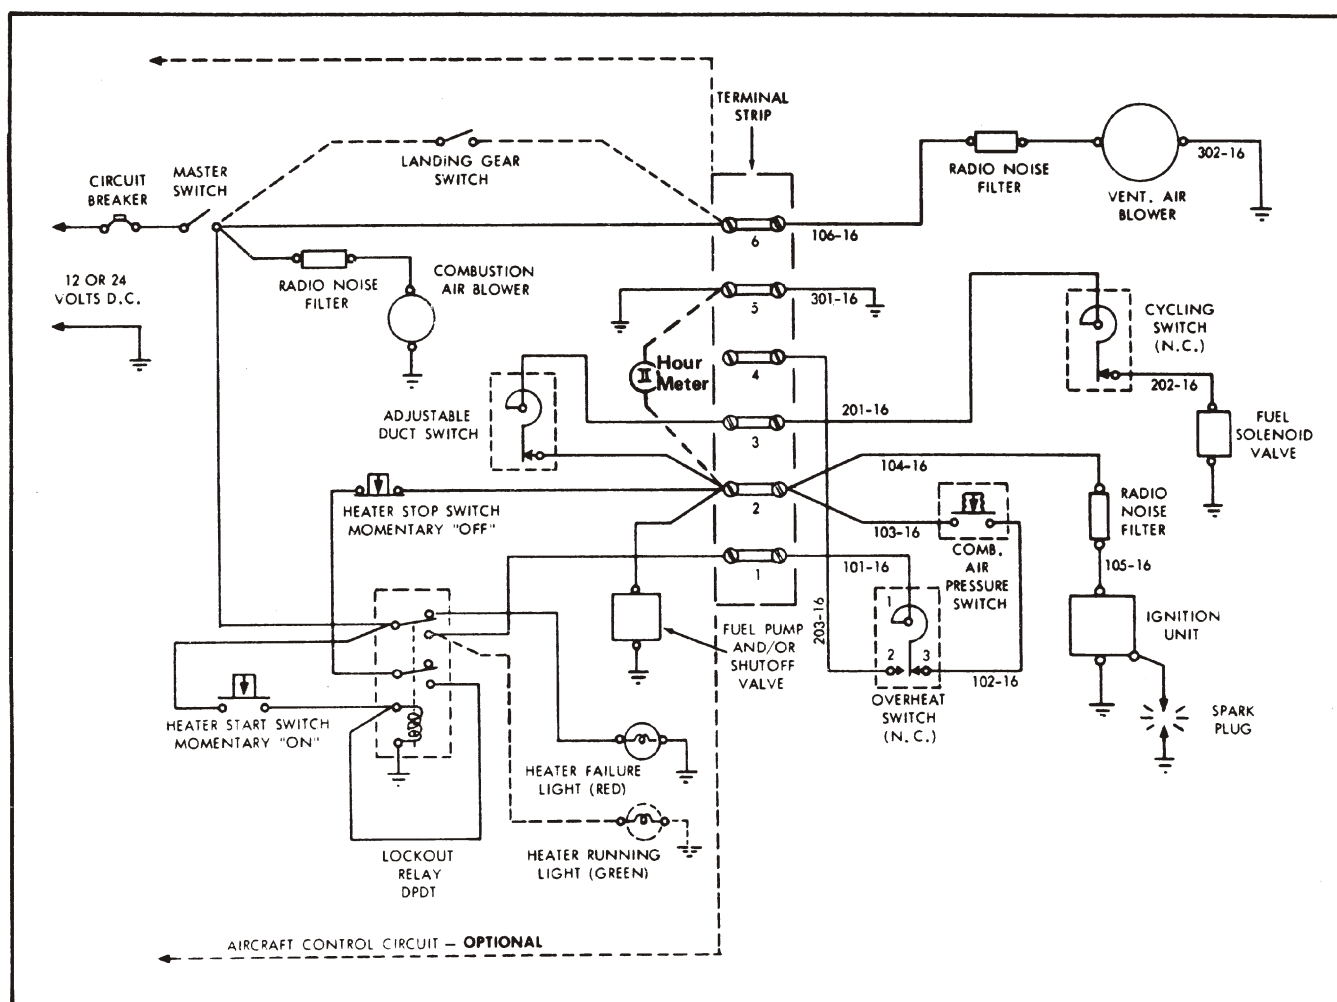

FIGURE 2-9 Wiring Diagram (typical)
2.2 Operating Controls (See Figure 2-9)
The schematic diagram (Figure 2.9) shows in addition to the heater circuit, a suggested customer control circuit. For the purpose of this manual, this circuit will be used to describe heater operation. However, the customer control circuit can and will vary in different installations.
2.3 Operating Procedure (See Figure 2-9)